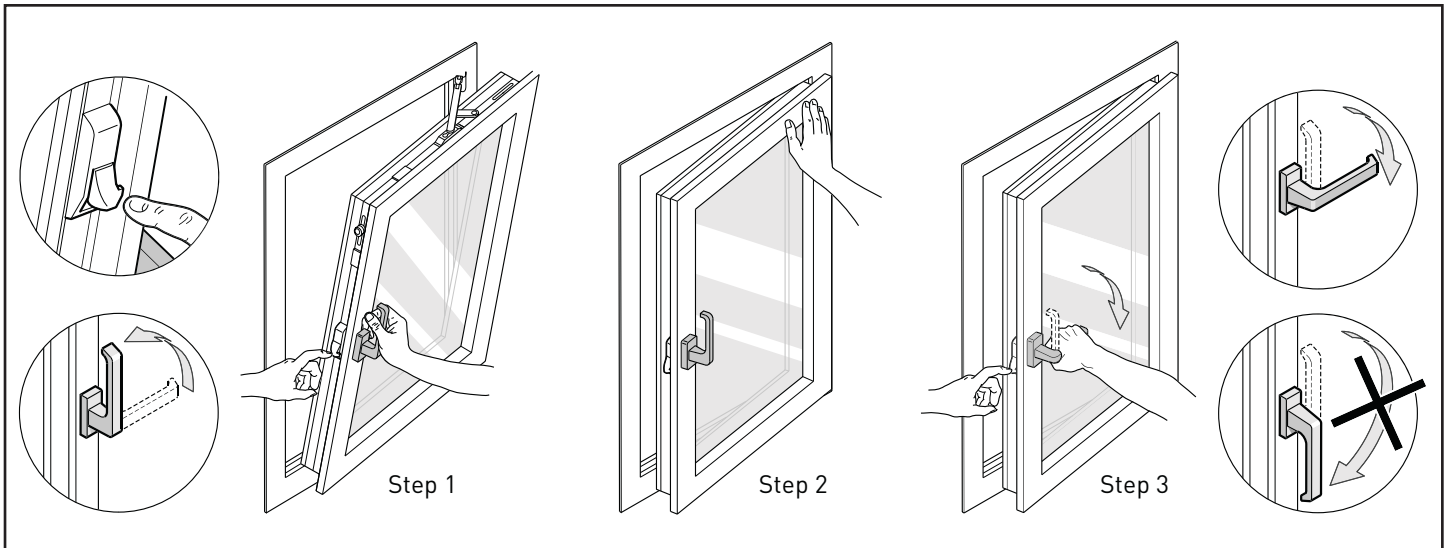

Figure 2-23
Step 1 Depress the fail safe switch and turn the handle to the tilt position. See fig. 2-23.